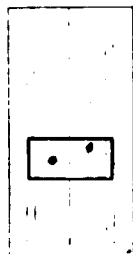

FIG. 4 (Front)
- C-3 Place Pad - smooth side out onto guide, Fig. 4.
- C-4 Notice that one (1) hole in insulator pad is closer to edge than the other. Align this hole with hole just drilled in rear bottle guide. Secure with screw - loosley.
- C-5 Refer to Fig. 4 - pivot pad to horizontal position - remaining hole in pad should be low and to the left.